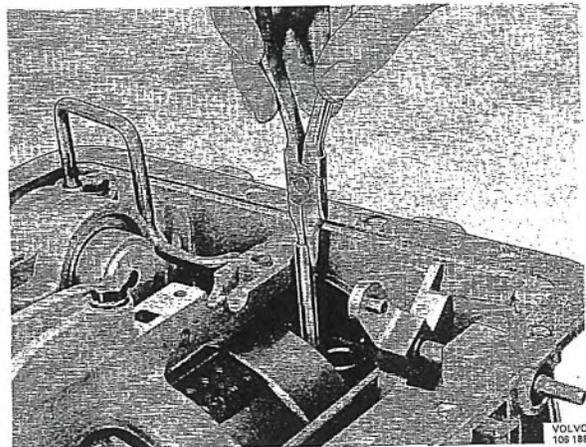

Fig. 4-77. Removing converter inlet and outlet tubes using needle-nose pliers
20. Remove the oil tubes in the housing. In case of difficulty pull them out with needle-nose pliers as shown in Fig. 4-77.